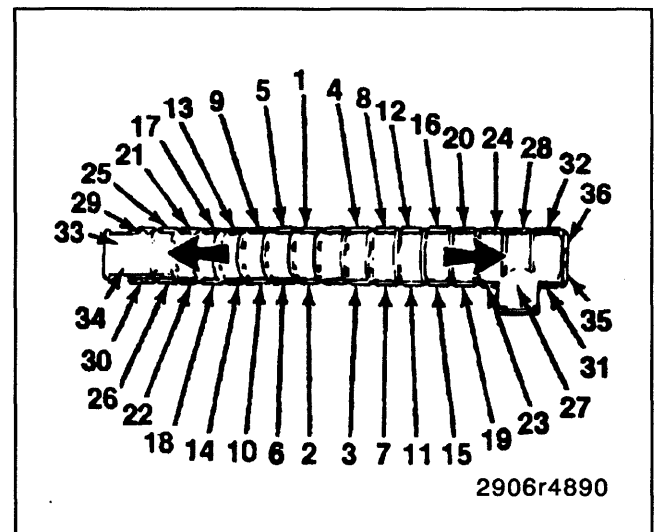

Figure 27—Clinching Sequence
10. Clamp the remaining clinch tabs around the header using the clinching tool or pliers following the clinching sequence in figure 27.